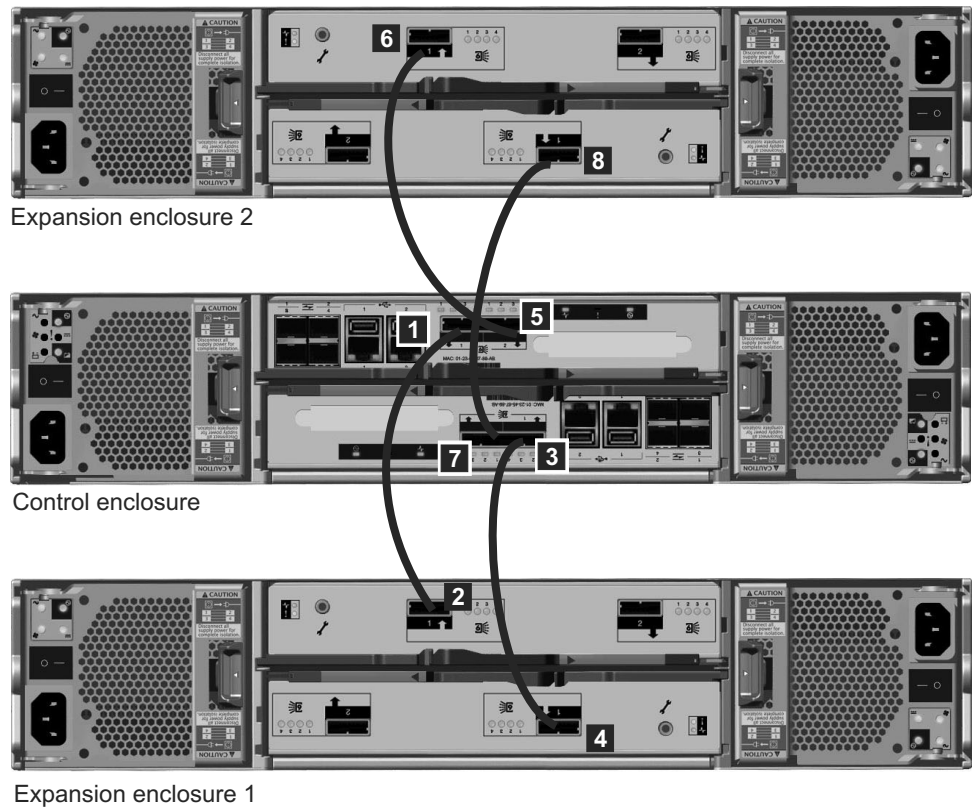

Figure 36. Adding a second expansion enclosure
- Attach the SAS cables from the control enclosure to the second expansion enclosure as shown in Figure 36 on page 47. The second expansion enclosure is above the control enclosure.